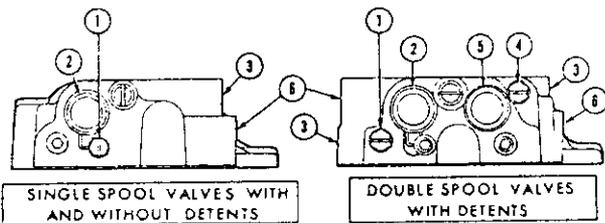

Fig. 436—View showing front side of single and double spool remote control valves.
**385.** Exploded views of single and double spool remote control valves with spool detents are shown in Figs. 434 and 435. Except for the detent assemblies (items 24 through 28), remote control valves are the same. Either control valve can be used to operate single or double acting cylinders. Refer to Fig. 436 and Table A.
Table A—Refer to Fig. 436 for float valve and by-pass valve locations and to above table for cylinder application, valve settings and hose installation. The inboard spool of the double spool control valve without detents is always double acting and cannot be converted to single acting operation. N/A—Does Not Apply.